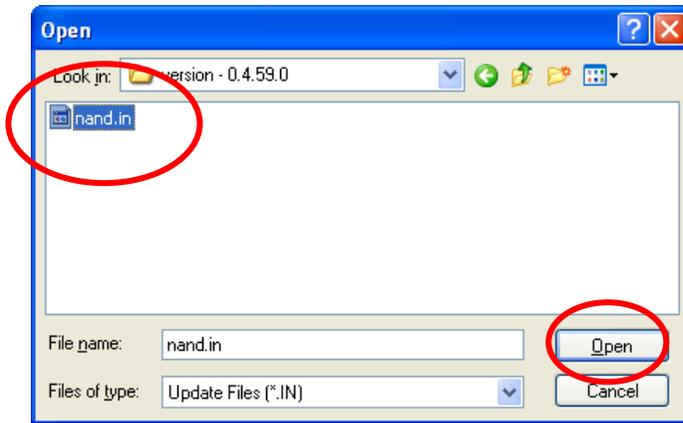

Figure 107:
7. When you have located the file, select it and press 'Open' (Figure 107).